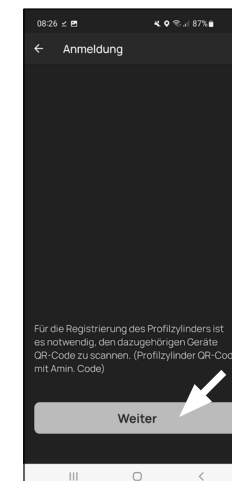

Fig. 3
- 3 A prompt will appear asking you to scan the cylinder QR code provided using your smartphone camera (Fig. 3). The QR code is on the sticker enclosed in the packaging (Fig. 4).
- 4 Tap on "Next" (Fig. 3). You may be asked to confirm the app's access to the camera.